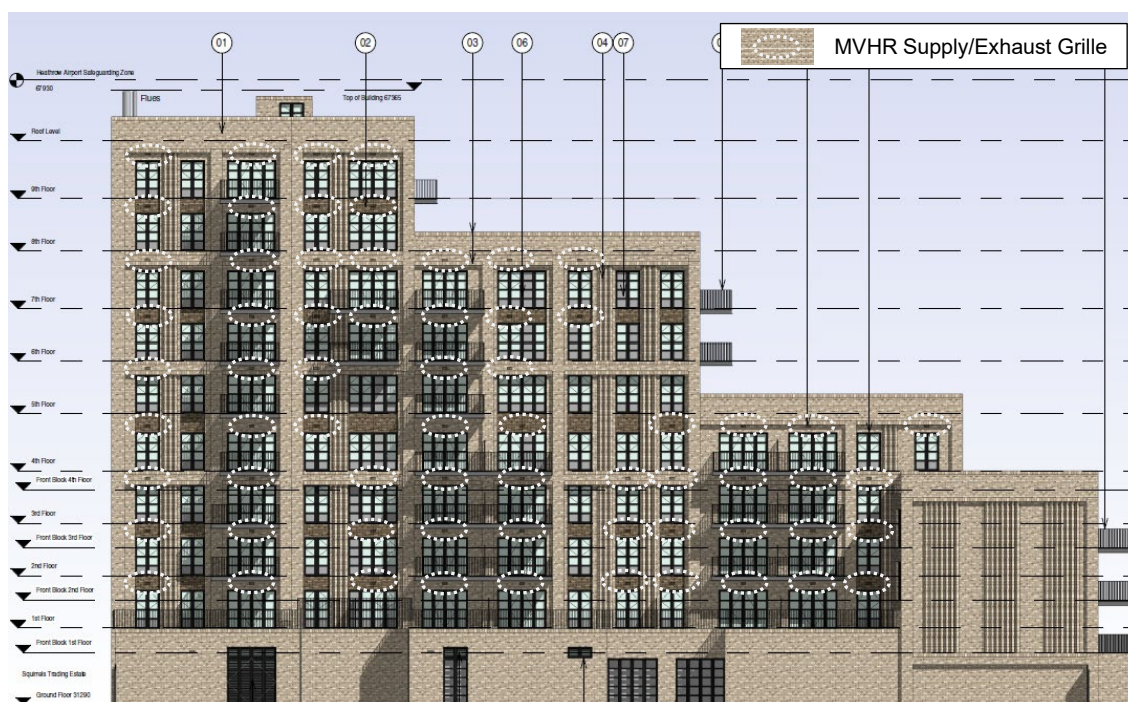

Figure 3: Proposed MVHR Supply/Exhaust Grilles on Western Elevation
14. For ease of reference, **Figure 3** overleaf reproduces drawing 1820-1300 (Rev.B) for the west elevation of the development (as directly cited in the reason for refusal) which has been annotated to show the proposed grilles.